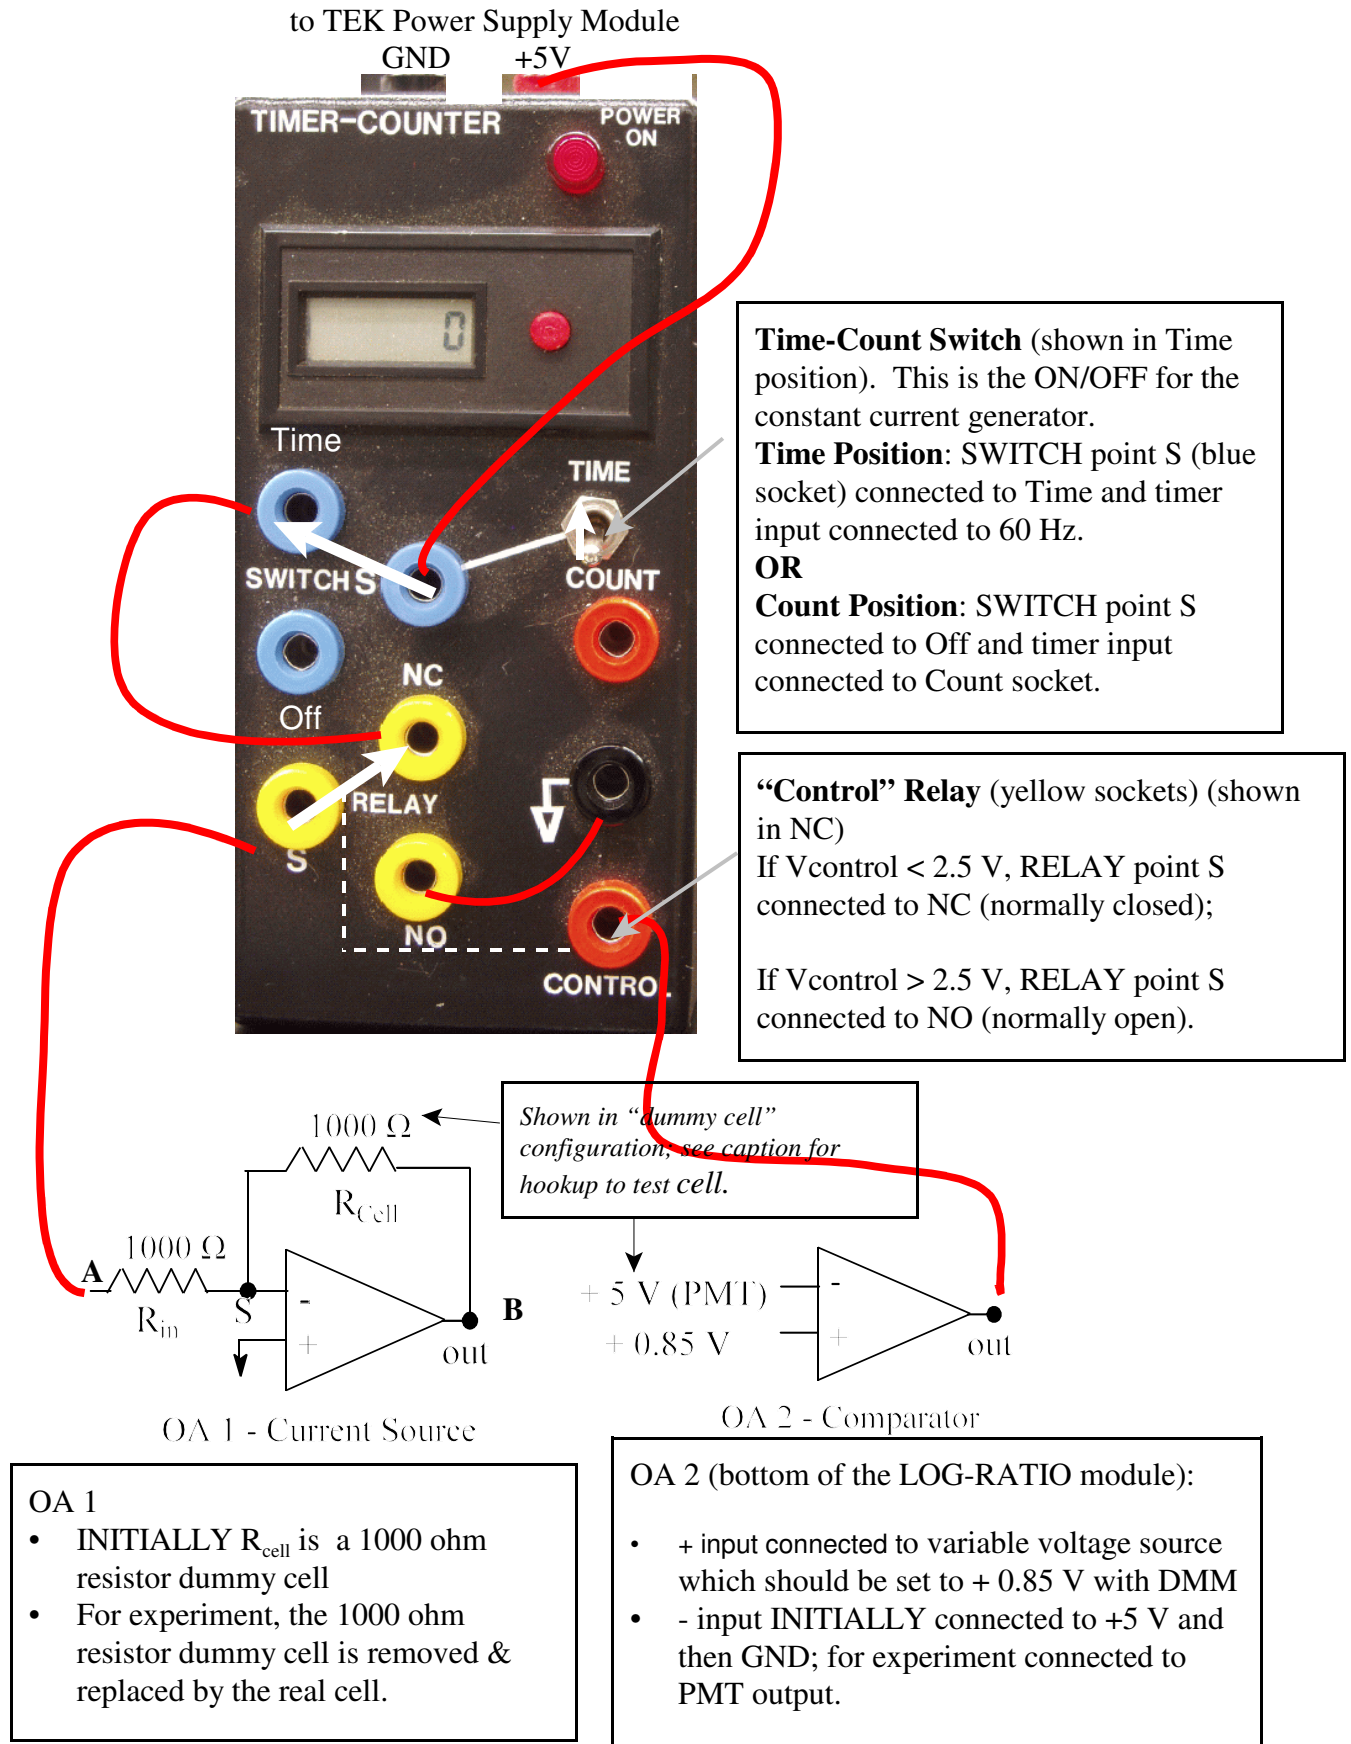

Figure 2. Timer Counter & Electronics setup.
Figure 2 on the next page illustrates the timer/counter electronic schematic. OA-1 is used to provide a constant current through the reaction cell and OA-2 is used as a comparator. The Timer-Counter module provides a timer with 1/60 of a second resolution and an electrical relay to control the passage of current to the reaction cell.
**C. Now complete the wiring as indicated in Fig. 2.****D. Simulate the “titrate” and “hold” modes of the circuit and verify that they work as designed.**
- **Simulate “titrate”** by moving the Time / Count switch to the Time (ON) position (with the inverting input of OA-2 connected to + 5 V to simulate 100% T from PMT).
- Point A (Fig. 2) is +5 V (to drive constant current source);
- Point B (Fig. 2) is -5V (to sink current);
- **Now simulate “hold”** by moving the Time / Count switch to the Time position (ON) to start the titrate mode and then move the “dummy PMT” lead from the inverting input of OA-2 to ground to simulate 0 %T and “hold”.